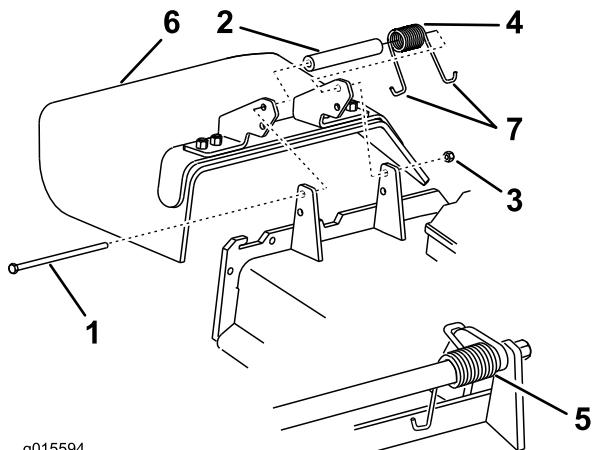

Figure 6
1. Make sure one **J** end of the spring is installed behind the deck edge before installing the bolt as shown in Figure 6.
2. Place one **J** hook end of the spring around the grass deflector (Figure 6).